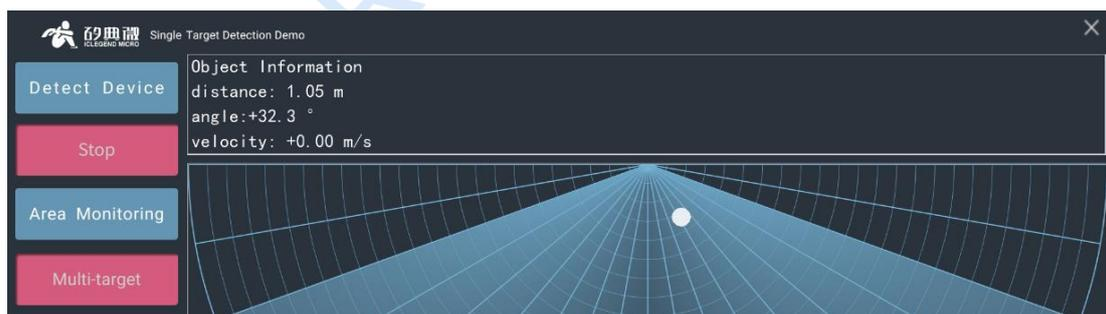

Figure 6-3 Example of single target detection demonstration
Step 3: Click the **Start/Stop** toggle button, the GUI will display the position of the detected target referring to the evaluation board, an example is shown in Figure 6-3;